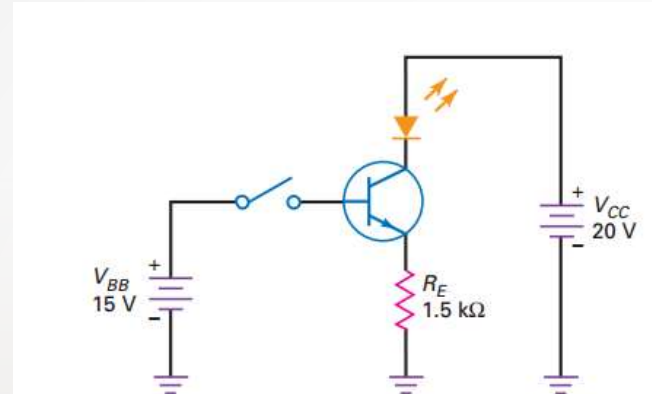

Fig. 4.9. Emitter bias for LED driving
4.1 Calculate the Emitter resistance for Emitter bias as shown in Fig. 4.9 which could drive an LED of 21 mA Fig. 4.9.